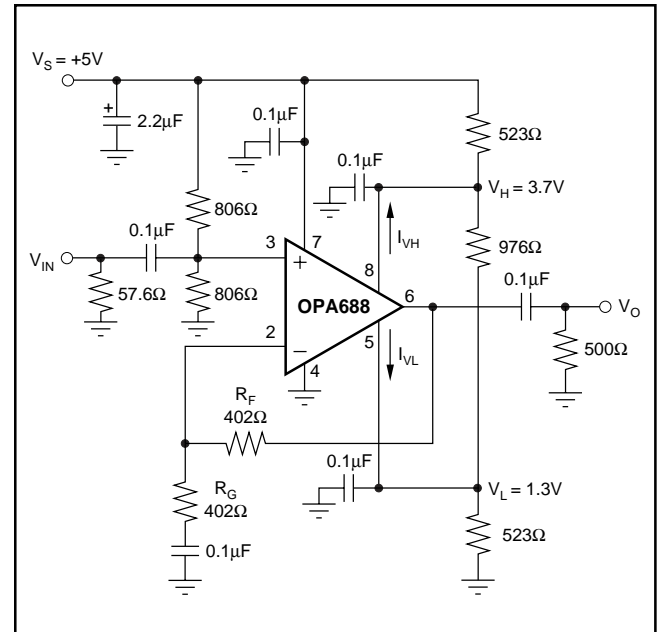

FIGURE 2. AC-Coupled, Single Supply Amplifier.
$G = +2$, $R_L = 500\Omega$ tied to $V_{CM} = 2.5V$, $R_F = 402\Omega$, $V_L = -1.2V$, $V_H = +1.2V$ (Figure 2 for AC performance only), unless otherwise noted.
NOTES: (1) Junction Temperature = Ambient Temperature for low temperature limit and 25°C guaranteed specifications. Junction Temperature = Ambient Temperature + 23°C at high temperature limit guaranteed specifications. (2) TEST LEVELS: (A) 100% tested at 25°C. Over temperature limits by characterization and simulation. (B) Limits set by characterization and simulation. (C) Typical value for information only. (3) Current is considered positive out of node. (4) CMIR tested as < 3dB degradation from minimum CMRR at specified limits. (5) I_{VH} (V_H bias current) is negative, and I_{VL} (V_L bias current) is positive, under these conditions. See Note 3, Figures 2, and Figure 8. (6) Limiter feedthrough is the ratio of the output magnitude to the sinewave added to V_H (or V_L) when $V_{IN} = 0$. (7) V_H slew rate conditions are: $V_{IN} = V_{CM} + 0.4V$, $G = +2$, $V_L = V_{CM} - 1.2V$, $V_H =$ step between $V_{CM} + 1.2V$ and V_{CM} . V_L slew rate conditions are similar. (8) Linearity Guardband is defined for an output sinusoid ($f = 5MHz$, $V_O = V_{CM} \pm 1V_{p-p}$) centered between the limiter levels (V_H and V_L). It is the difference between the limiter level and the peak output voltage where SFDR decreases by 3dB (see Figure 9).
$G = +2$, $R_F = 402\Omega$, $R_L = 500\Omega$ tied to $V_{CM} = 2.5V$, $V_L = V_{CM} - 1.2V$, $V_H = V_{CM} + 1.2V$, (Figure 2 for AC performance only), unless otherwise noted.
Figure 2 shows an AC-coupled, non-inverting gain amplifier for single +5V supply operation. This circuit was used for AC characterization of the OPA688, with a 50Ω source,
The OPA688 is nominally specified for operation using either $\pm 5\text{V}$ supplies or a single $+5\text{V}$ supply. The maximum specified total supply voltage of 12V allows reasonable tolerances on the supplies. Higher supply voltages can break down internal junctions, possibly leading to catastrophic failure. Single-supply operation is possible as long as common mode voltage constraints are observed. The common mode input and output voltage specifications can be interpreted as a required headroom to the supply voltage. Observing this input and output headroom requirement will allow design of non-standard or single-supply operation circuits. Figure 2 shows one approach to single-supply operation.
When the limiter voltages need to be within 2.1V of the supplies ($V_L \leq -V_S + 2.1\text{V}$ or $V_H \geq +V_S - 2.1\text{V}$), consider using low impedance buffers to set V_H and V_L to minimize errors due to bias current uncertainty. This will typically be the case for single supply operation ($V_S = +5\text{V}$). Figure 2 runs 2.5mA through the resistive divider that sets V_H and V_L . This keeps errors due to I_{V_H} and $I_{V_L} < \pm 1\%$ of the target limit voltages.